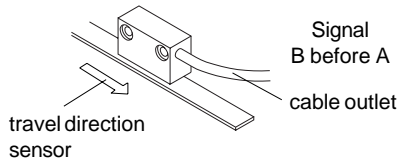

Fig. 6: Definition of counting direction / mounting
- **Sensor must be aligned correctly with respect to the counting direction** (see fig. 6).